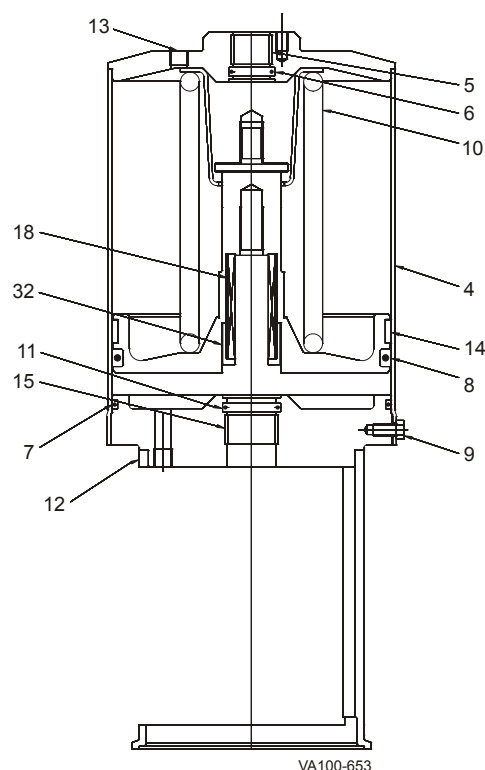
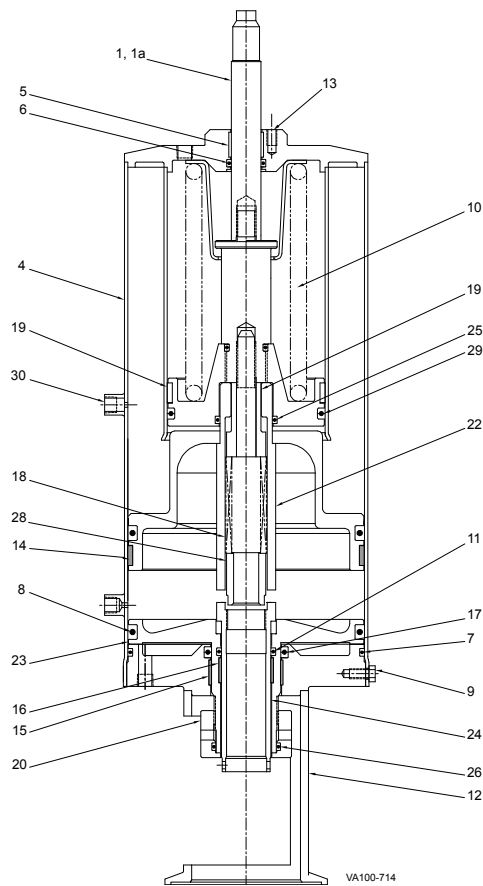

Figure 36 - W71/W72RS Sch. 5 Actuator Assembly (Non-Seat Lift Valve)
Figure 37 - W71 Sch. 5 Actuator Assembly (Seat Lift Valve)
1. For non-seat lifting valves, remove the cap screws (Figure 36, item 9) and remove the yoke (item 12) from the cylinder assembly. Set the yoke aside.
2. Pull the piston and spring assembly (Figure 36, item 10) from the cylinder assembly.
3. Inspect the four O-rings (Figure 36, items 6, 7, 8, and 11). Replace them if they are worn or damaged.
4. Inspect the three bearings (Figure 36, items 5, 14, and 15). If the bearing does not extend slightly above the edge of the metal surface, replace the bearing.
6. Assemble the stack components as shown in Figure 36. Install the yoke and cap screws.
1. For seat lifting valves, remove the cap screws (Figure 37, item 9) and remove the lower cartridge (yoke, item 12; adjusting nut, item 20; adjusting sleeve, item 24; and upper seat piston, item 23).
3. Remove the small spring (Figure 37, item 18). On W71 valves, also remove the bushing (Figure 36, item 28).
4. Pull out the upper cartridge (main piston, item 22; lower seat spring and piston, item 10), by carefully threading in the lower stem to pull it. Do not bend the lower stem.
5. Inspect the nine O-rings (Figure 37, items 6, 7, 8, 11, 17, 25, 26, and 29) and replace them if they are worn or damaged.
6. Inspect the five bearings on W71 (Figure 37, items 5, 14, 15, 16, and 21) or four bearings on W72RS actuators (items 5, 14, 15, and 16). If the bearing does not extend slightly above the edge of the metal surface, replace it.